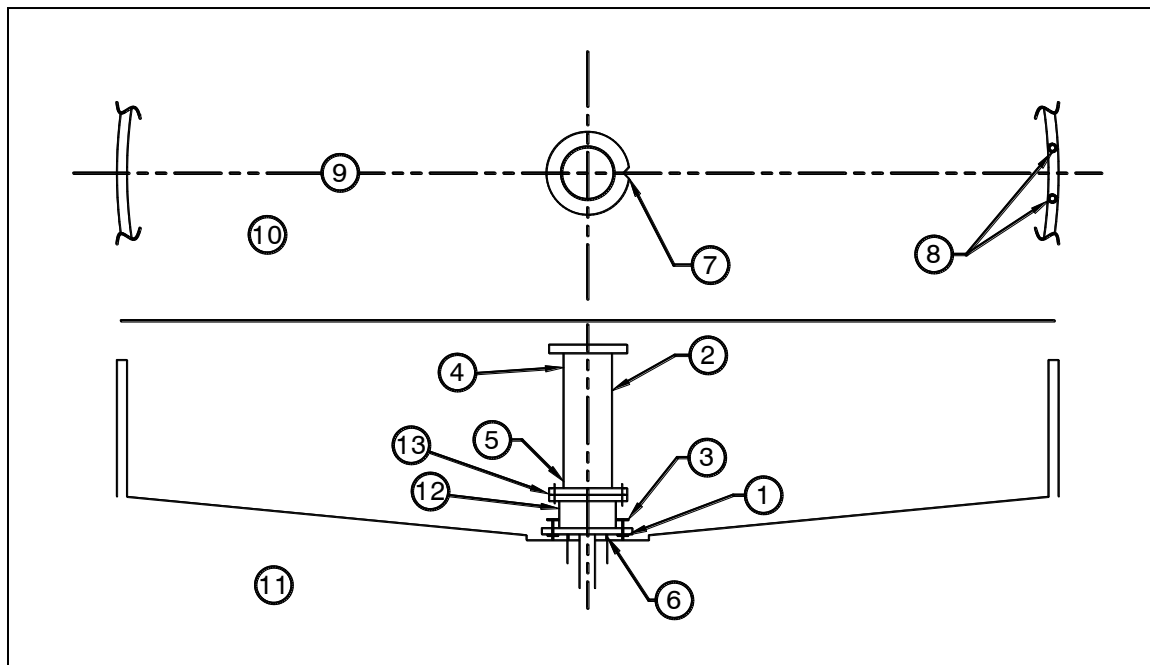

Figure 2.3a
3. Set the column (2) on the CMD (12) with the “V” notch in the column flange in line with the walkway centerline and aligned with the “V” notch in the CMD. Install and secure the column flange-to-CMD fasteners, as shown on the General Erection drawing.
Hang the plumb bob from the top flange. Measure the distance to the column shell, near the top and bottom of the column (points (4) and (5) in Figure 2.3a). Note this amount, then move the plumb bob 90° from the original measurement location and repeat. Reasonable allowance is 1/8" in 10' overall, that is (4) minus (5).